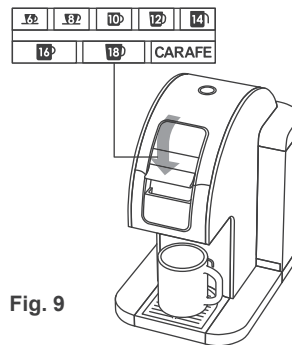

Fig. 9
3. Close the Cover by pressing down on the Cover Handle. (Fig. 9)
4. Press on the desired cup button (6, 8, 10, 12, 14, 16, or 18). (Fig. 9) Recommendation: Use 6-10 cup size with regular K-Cup® portion pack; use 10-14 cup size for our XBold cups; use 14-18 cup size for our XLarge cups; and use Carafe button with our Refill Jumbo Cup and Carafe.